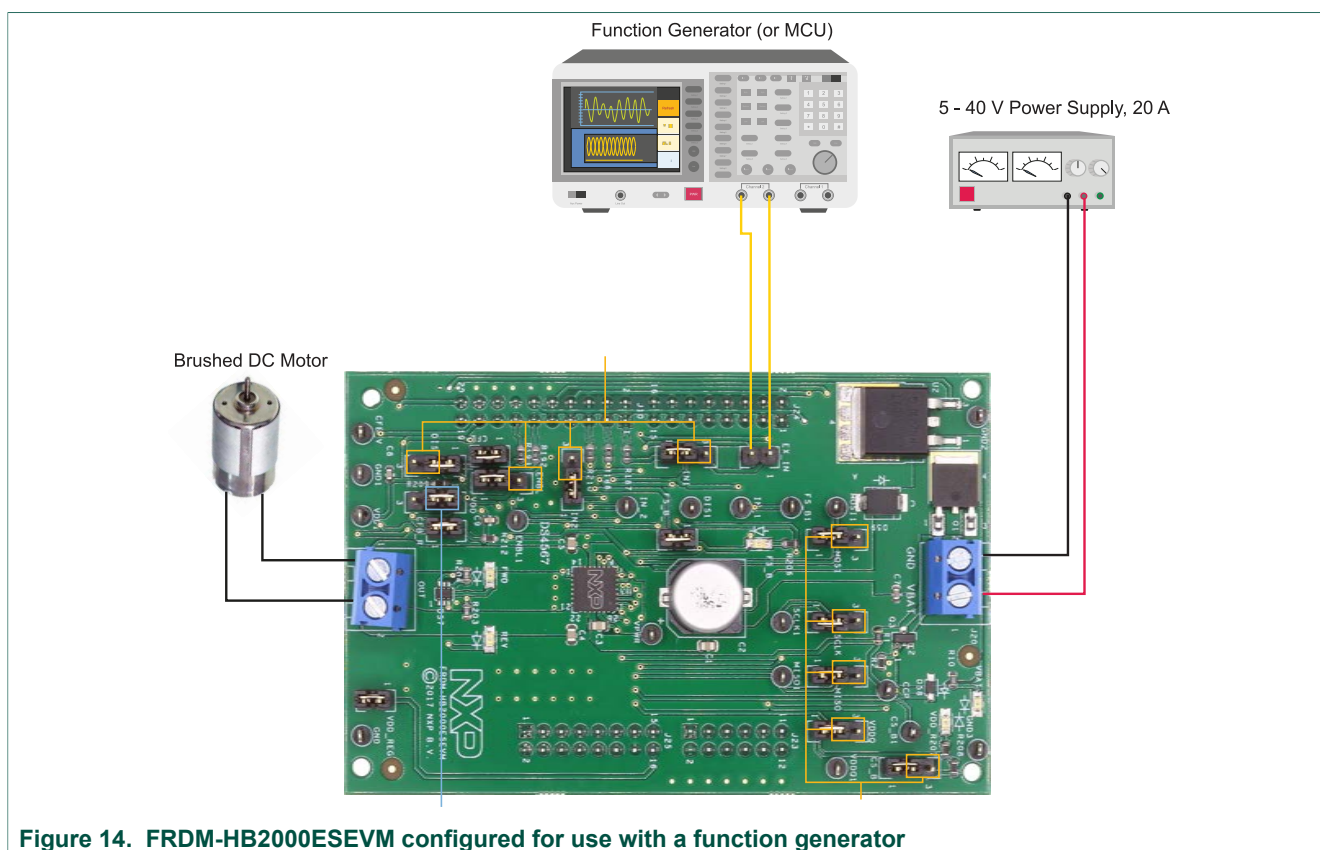

Figure 14. FRDM-HB2000ESEVM configured for use with a function generator
2. Change the board jumper connections, as shown in Figure 14.
Figure 14 illustrates the hardware configuration.